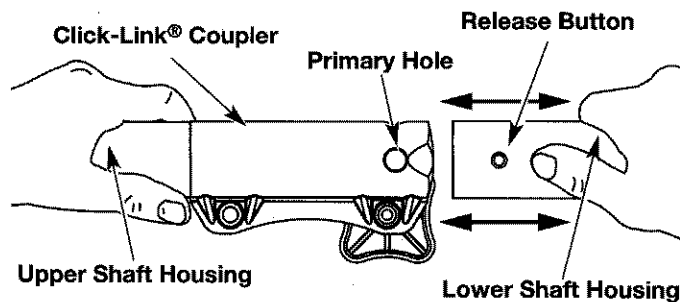

Fig. 11
2. While firmly holding the add-on, push it straight into the Click-Link® coupler (Fig. 11).